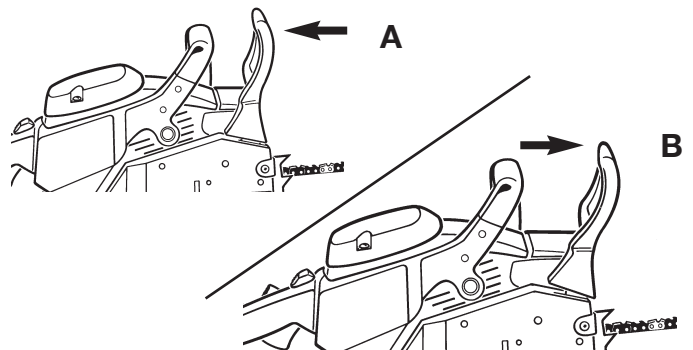

Fig. 30
1. The Chain Brake® is **DISENGAGED** (chain can move) when **BRAKE LEVER IS PULLED BACK AND LOCKED** (A, Fig. 30).
2. The Chain Brake® is **ENGAGED** (chain is stopped) when brake lever is in forward position. You should not be able to move chain (B, Fig. 30).